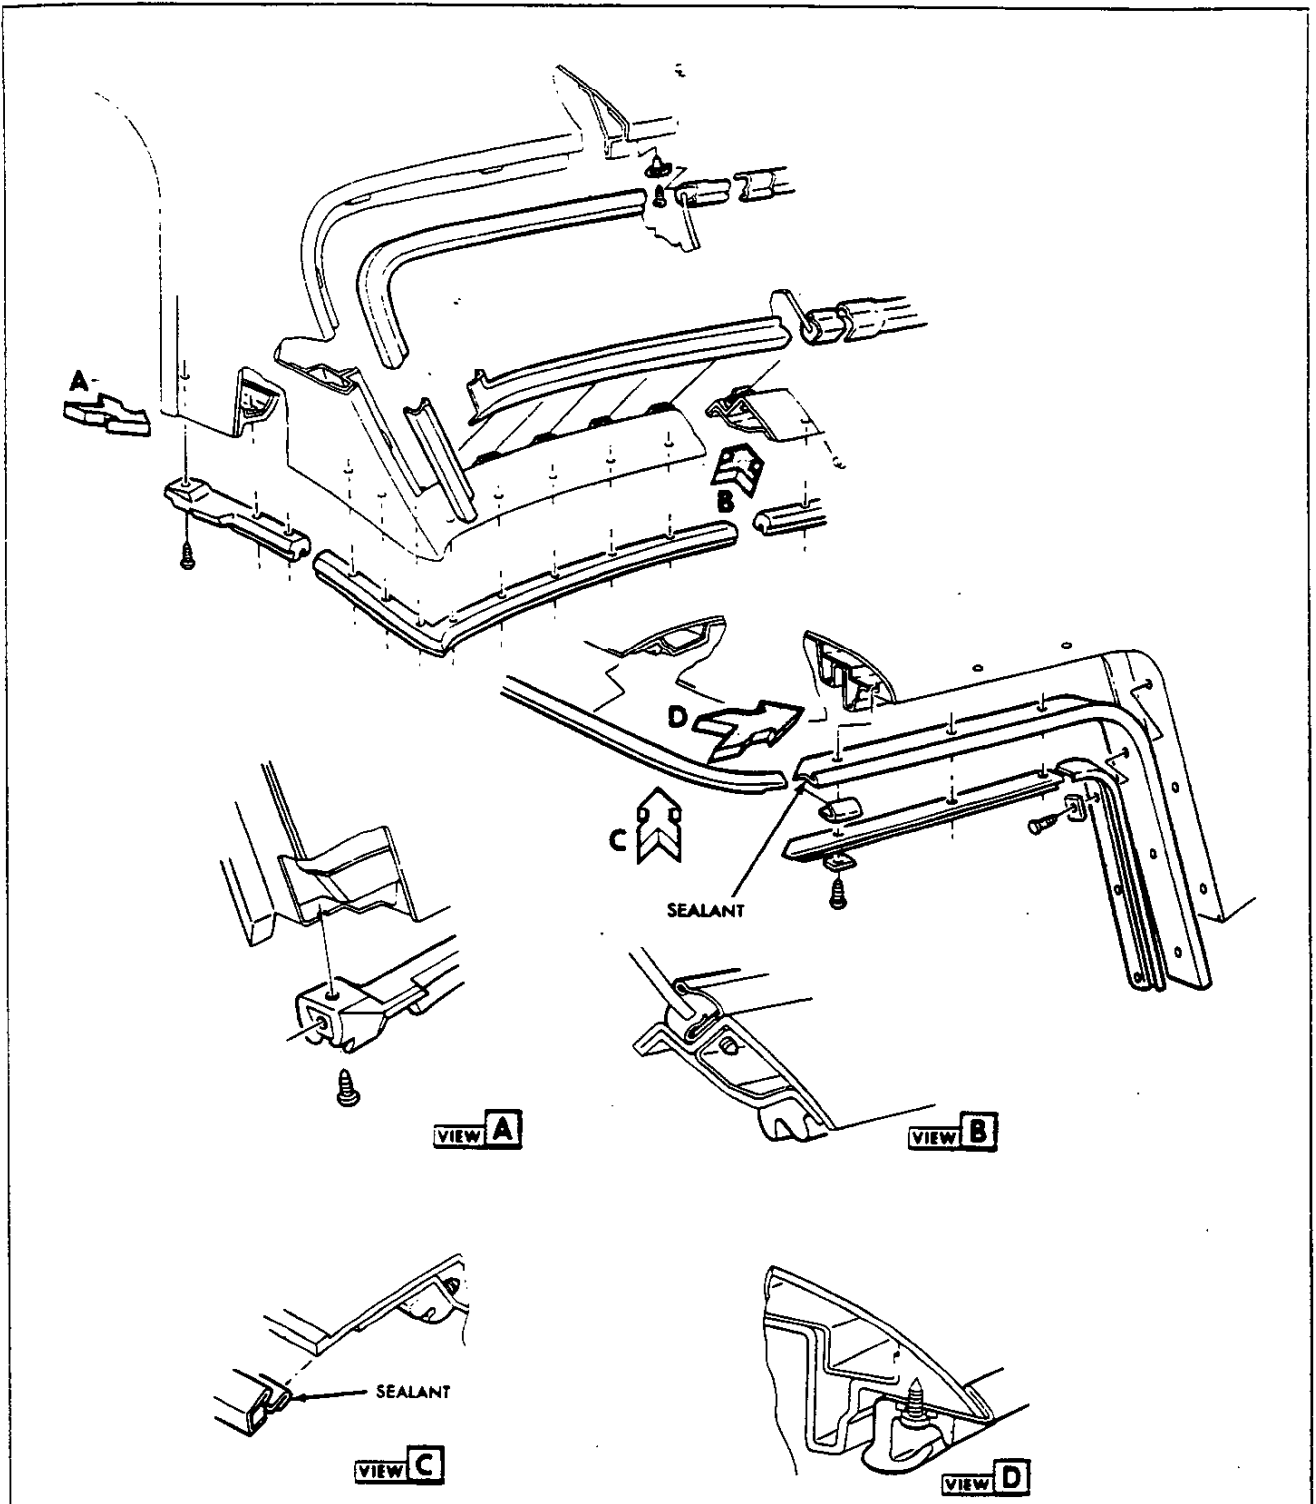

Fig. 65—Molding and Weatherstrip (Convertible Hardtop)
Refer to Figures 65 and 66 for parts identification.
As shown in Figure 65, door window weatherstrip and drip molding are retained by screws to top assembly. Side outer and rear outer weatherstrip are mounted to body at ends by screw and around periphery by special plastic retaining clips. Weatherstrip is replaced by removing two (2) screws and carefully pulling outward at clip location.